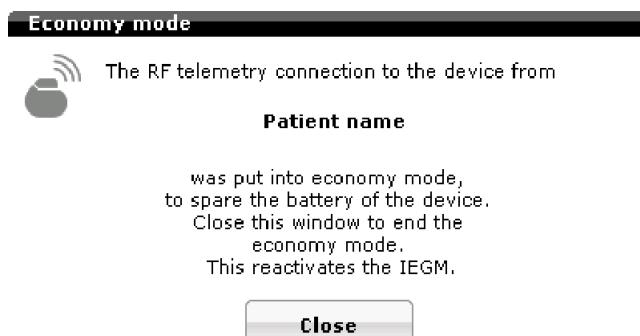

Figure 12: Economy mode message
When the Economy mode screen appears, the patient name will be displayed in the dialog box. In the example shown in Figure 12, “Patient name” appears. This message prevents potential confusion if more than one patient is in distance of the programmer.
- After three minutes without input, RF Telemetry switches to the economy mode. To re-establish RF Telemetry from the economy mode, select “Close” in the pop-up window with the patient’s name, as shown in Figure 12. To conserve the device battery, consider closing the Economy mode box, which ends the Economy Mode only when you will make a change in the programmer interface.